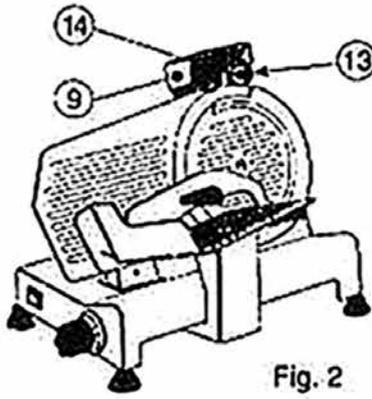

Fig. 2
- 5 Loosen the locking knob (12) on the sharpener group.
- 6 Raise the sharpener group, turning it by 180° so that both grinding wheels are in working position. **See Fig.2.**
- 7 Lower the sharpener group until it locks. During this procedure press button (13) to bring the sharpening wheel into contact with the cutting edge of the blade.
- 8 Secure the group by turning the locking knob (12).
- 11 After having verified the presence of burr, switch on and gently press button (14) for about 3 seconds to remove the burr produced during sharpening in (in this last phase, both grinding wheels will be working).
- 12 Turn the graduated knob (6) back to position "O".